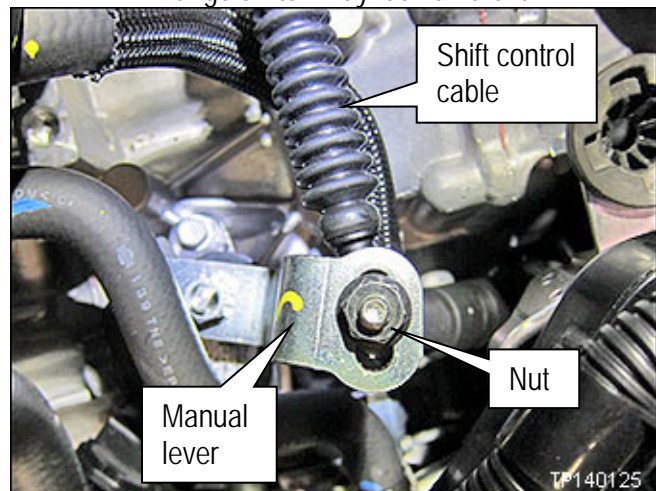

Figure 1
7. Loosen the shift control cable nut, shown in Figure 1.